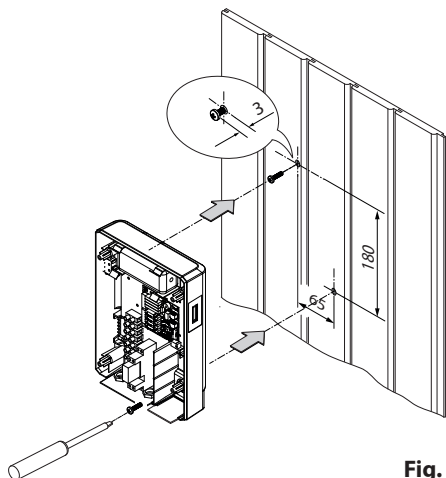

Fig. 2
- The boreholes for the supplied wood screws 2 x 30 mm are attached according to the dimensions stated in Fig. 2. Alternatively, by using dowels in the on-site wall.
- Turn one of the wood screws into the upper middle hole. The load unit is attached to this screw. The screw should therefore protrude by about 3 mm (see detail in Fig. 2).
- Screw the lower part of the casing into the right lower borehole so that it sits tightly against the cabin wall (Fig. 2).